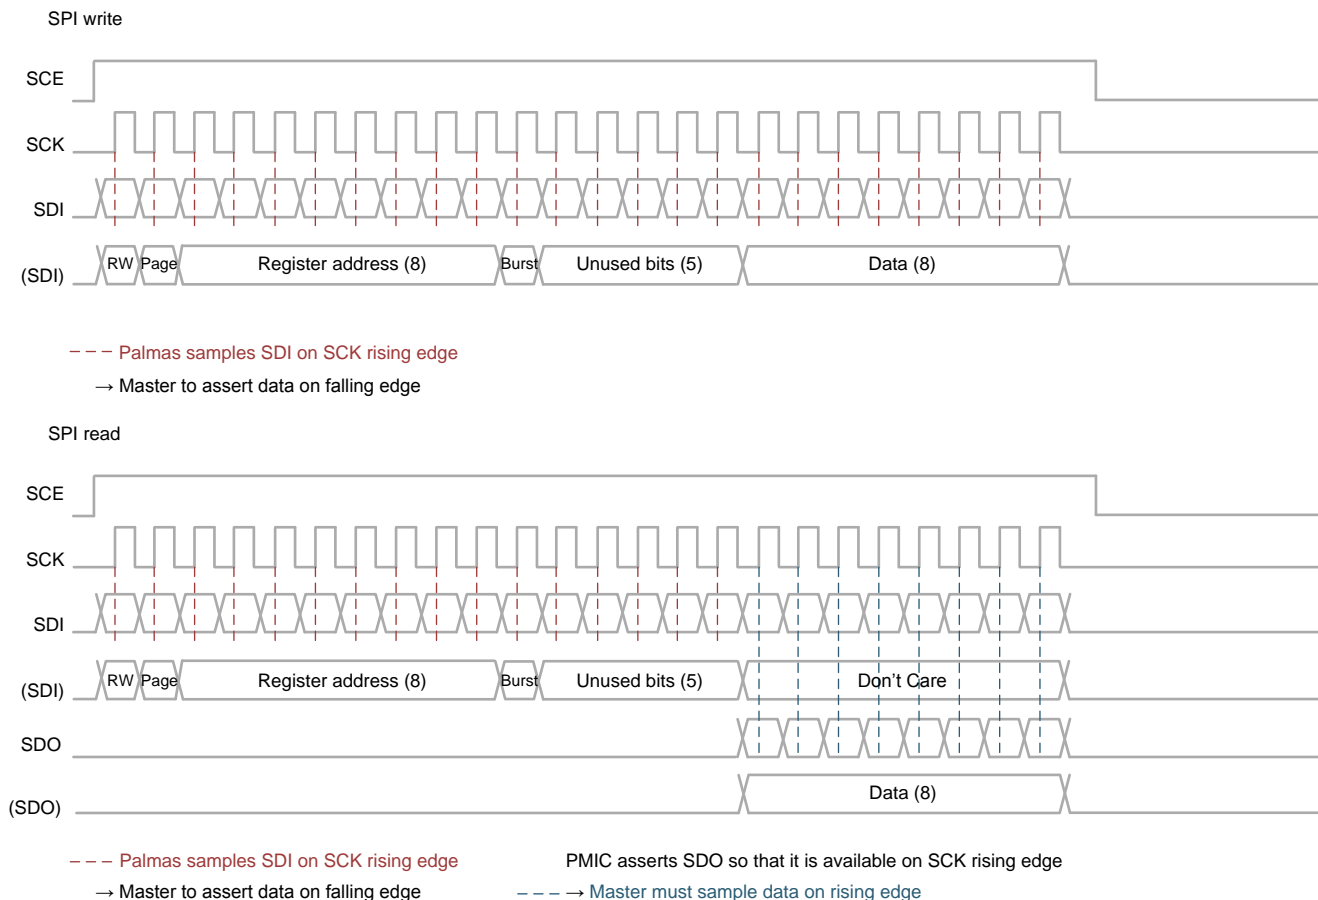
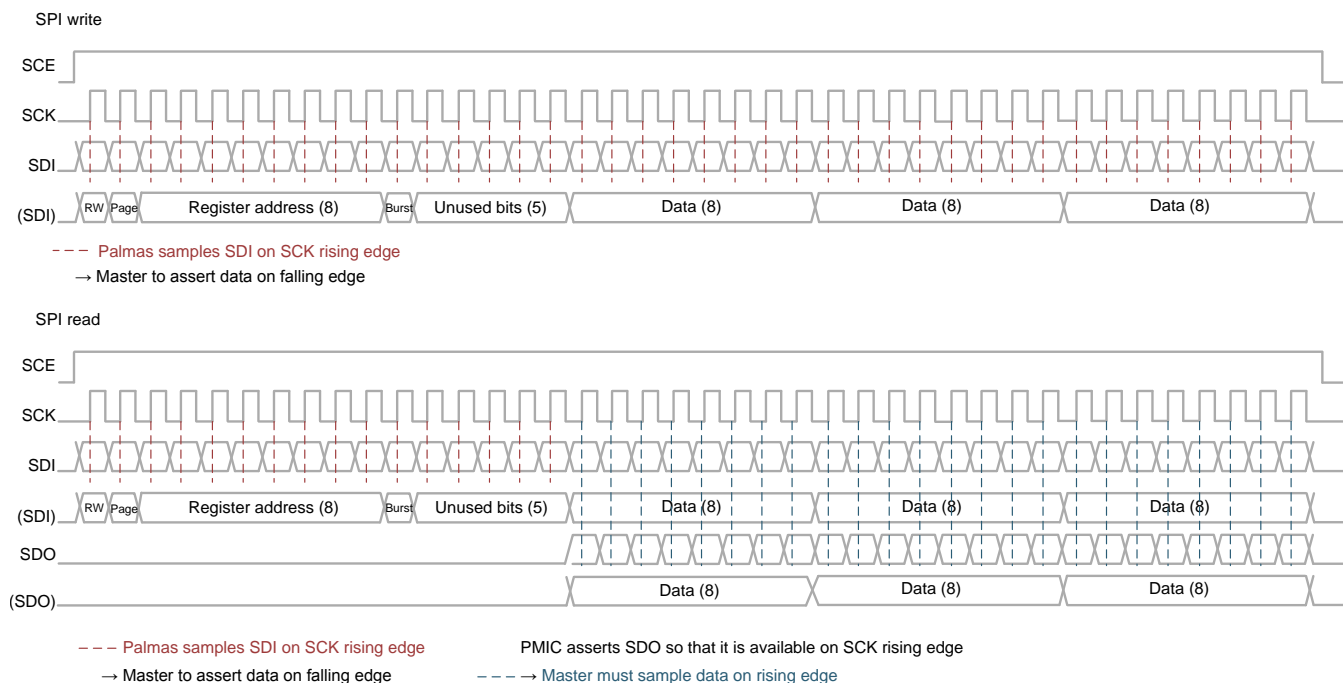

图 5-21. SPI Single Read and Write Access
图 5-22. SPI Burst Read and Write Access
- This mode consists of fetching and storing one single data location. The protocol is shown in 图 5-21.
- This mode consists of fetching and storing several data at contiguous locations. The protocol is shown in 图 5-22.
图 5-21 shows the SPI protocol for a single read and write access. 图 5-22 shows the SPI protocol for a burst read and write access.